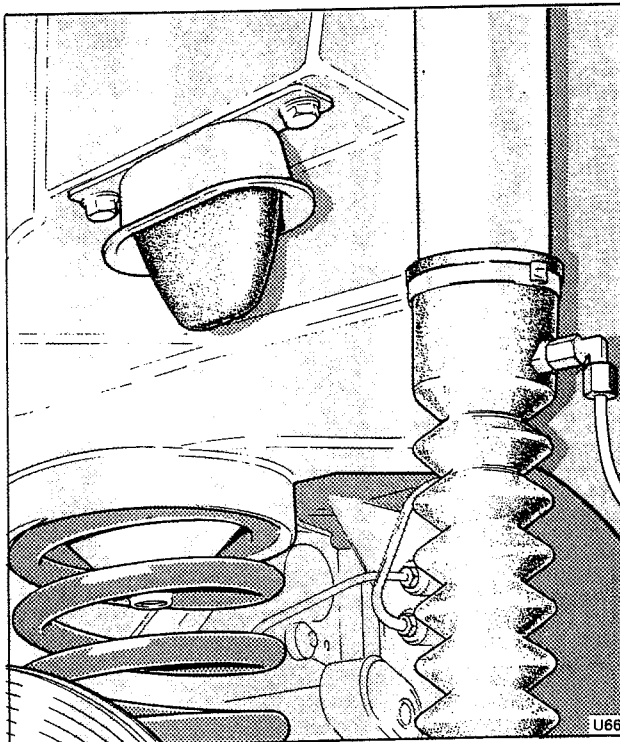

Fig. H7m Bump stop -- Rear wheel arch
3. Check the rear crossmember setting (see Fig. H7m) as described in Section H2m under Rear crossmember mounts - To renew.